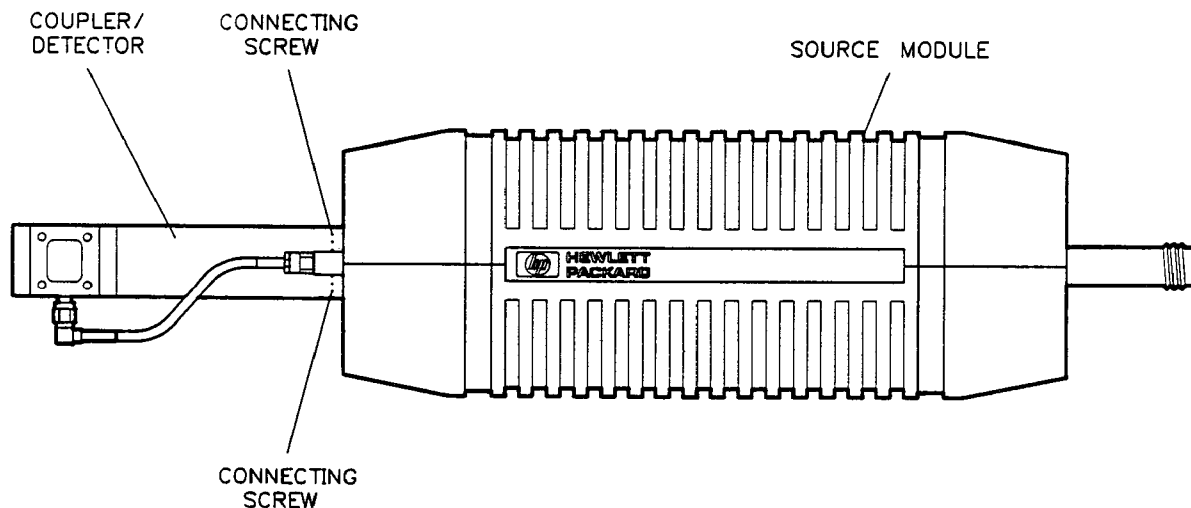

Figure 1-6. Alignment of the Coupler/Detector and Source Module
2. Align the coupler/detector assembly with the source module as shown in Figure 1-6.